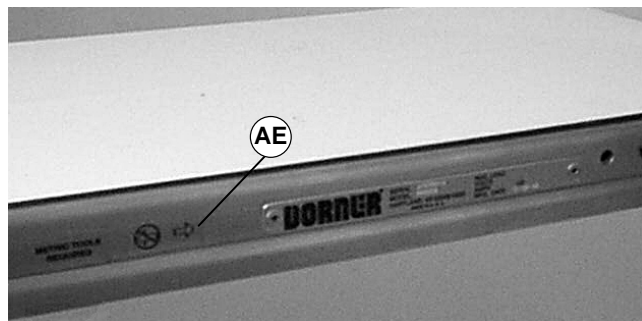
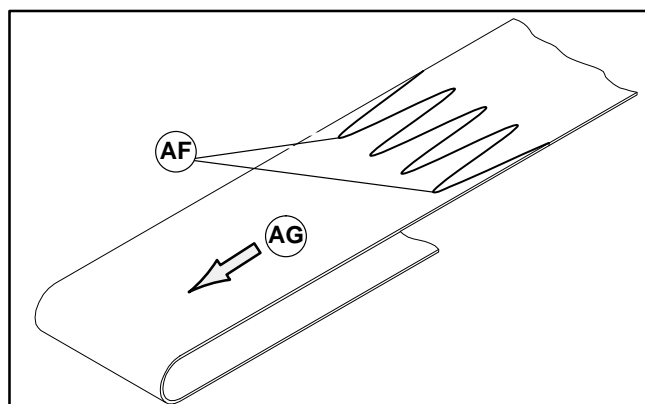

Figure 26
Figure 27
IMPORTANT: On a flat belt conveyor, the wiper is installed on discharge end. Belt travel direction is identified by an arrow decal on the side of the conveyor (AE of Figure 26). With a reversing gearmotor, a second bottom wiper must be installed on opposite end.
1. Orient the conveyor belt so that the splice leading fingers (AF of Figure 27) point in the direction of belt travel (AG) as identified by the label (AE of Figure 26).